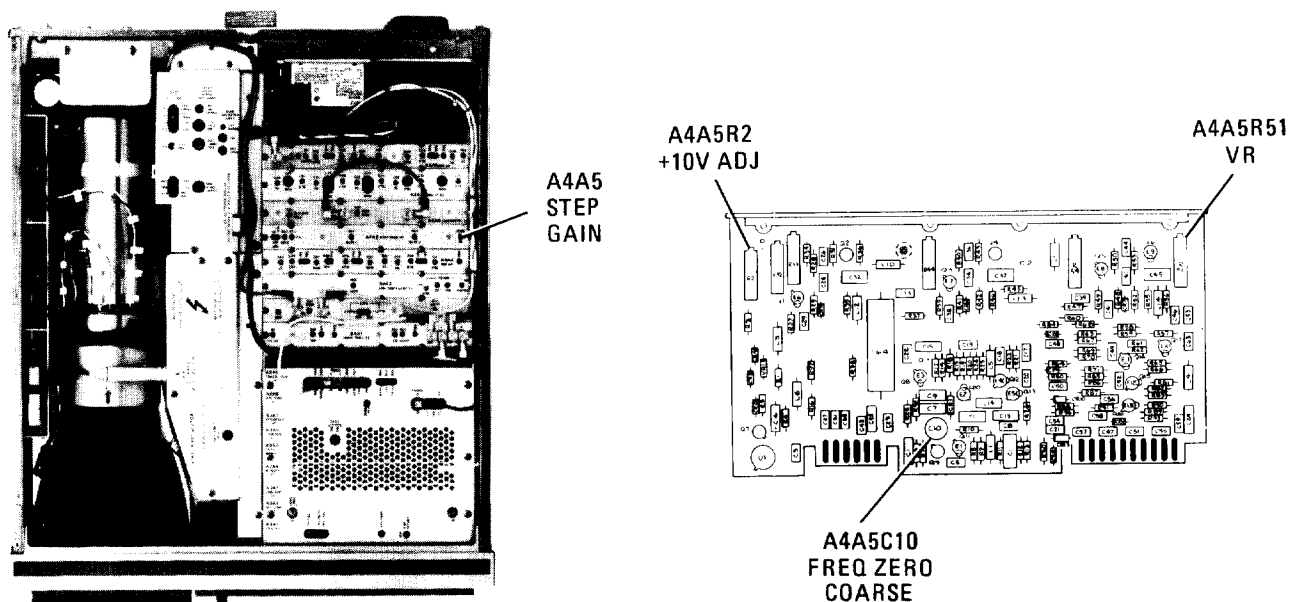

FIGURE 35. LOCATION OF .1-dB GAIN STEP, 18.4 MHz LO, AND +10V ADJUSTMENTS
31. Adjust A4A5R51 VR for MKR Δ level of –0.10 dB. Refer to Figure 35 for location of adjustment.
35. Adjust A4A5C10 FREQ ZERO to peak signal trace on CRT. Refer to Figure 35 for location of adjustment.